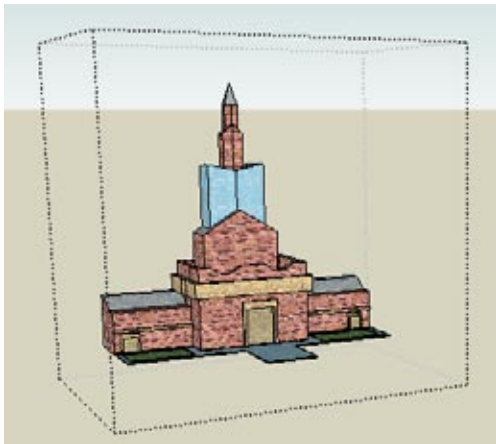

Figure 11-67
12. Close the wall group and open the palace group (Figure 11-67).